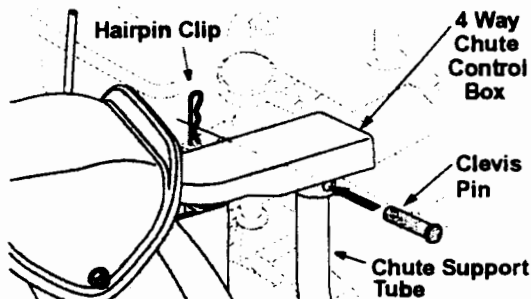

Figure 5
1. Pull the hairpin clip out of the clevis pin on the chute support tube. Save this hardware. See Figure 5.
4. Insert the clevis pin, earlier removed, through the holes on the chute control box and chute support tube. Secure with the hairpin clip. See Figure 5.